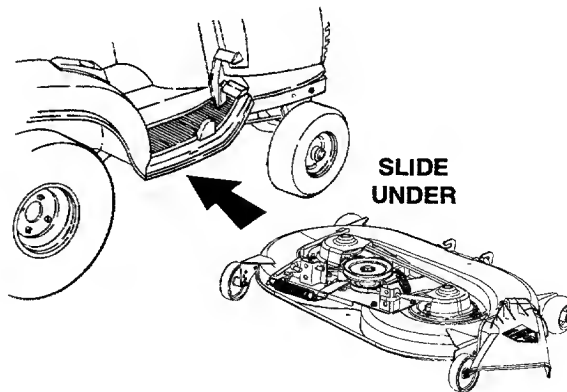

Figure 49
2. Refer to Figure 49 and position the deck on the right side of the tractor with the front of the deck facing toward the front of the tractor. Raise the tractor implement lift handle to its highest setting and slide the deck under the tractor.